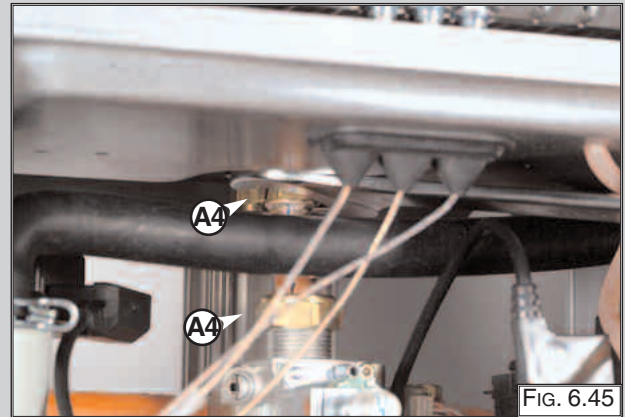

FIG. 6.45
3. Release the nuts "A4" (FIG. 6.45);